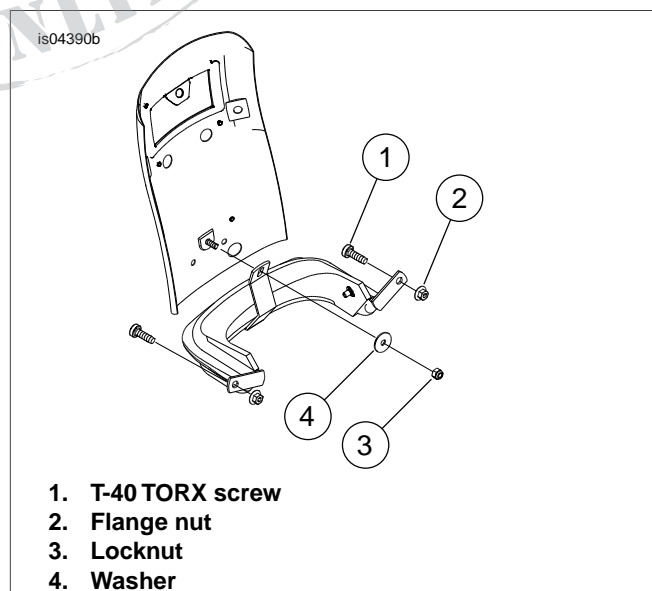

Figure 3. Rear Fender Bumper
7. See Figure 3. Reach underneath fender below bumper and remove locknut (3) and washer (4) from weld stud centered in lower fender.
8. Remove two T-40 TORX screws (1) and flange nuts (2) from bumper bracket at the saddlebag supports and remove bumper. Save TORX screws and nuts for reuse.